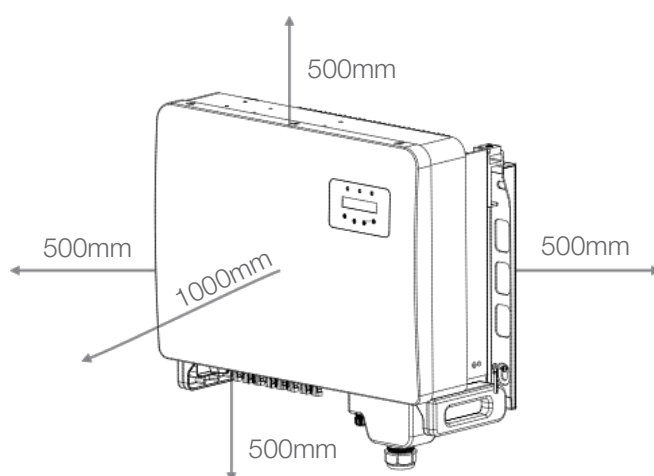

Figure 5.2 Inverter Mounting clearance
- For multiple inverters are installed on site, a minimum clearance of 500mm, should be kept between each inverter and any other mounted equipment. The bottom of the inverter must be be at least 500mm from the ground or floor. See figure 5.2.